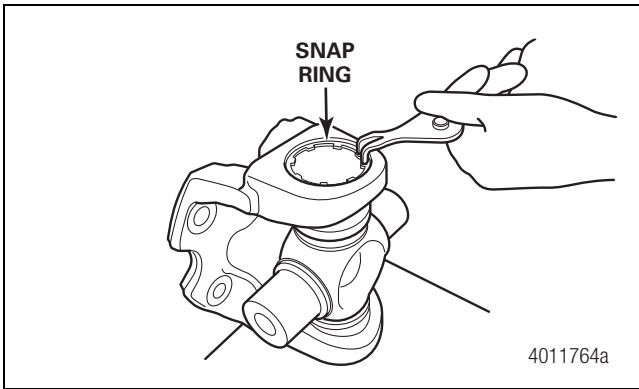

Figure 4.69
10. Install the snap ring. Ensure it is seated all the way around the groove. Use a drift and hammer if needed to seat it in the groove all the way around. If the snap ring will not seat correctly, make sure the snap ring groove is clean and free of debris. Figure 4.69.